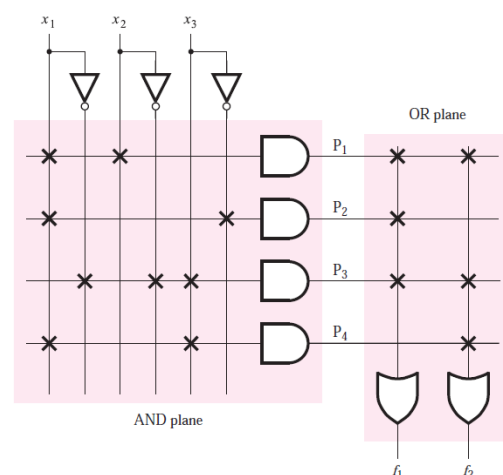

Figure 2
Step 2 Draw a combinational logic circuit for each output signal. The circuit will have 4 inputs (A, B, C, D) and 7 outputs (CA, CB, CC, CD, CE, CF, CG). The circuit in figure 2 is an example of a circuit with 3 inputs (X_1, X_2, X_3) and 2 outputs (f_1, f_2).